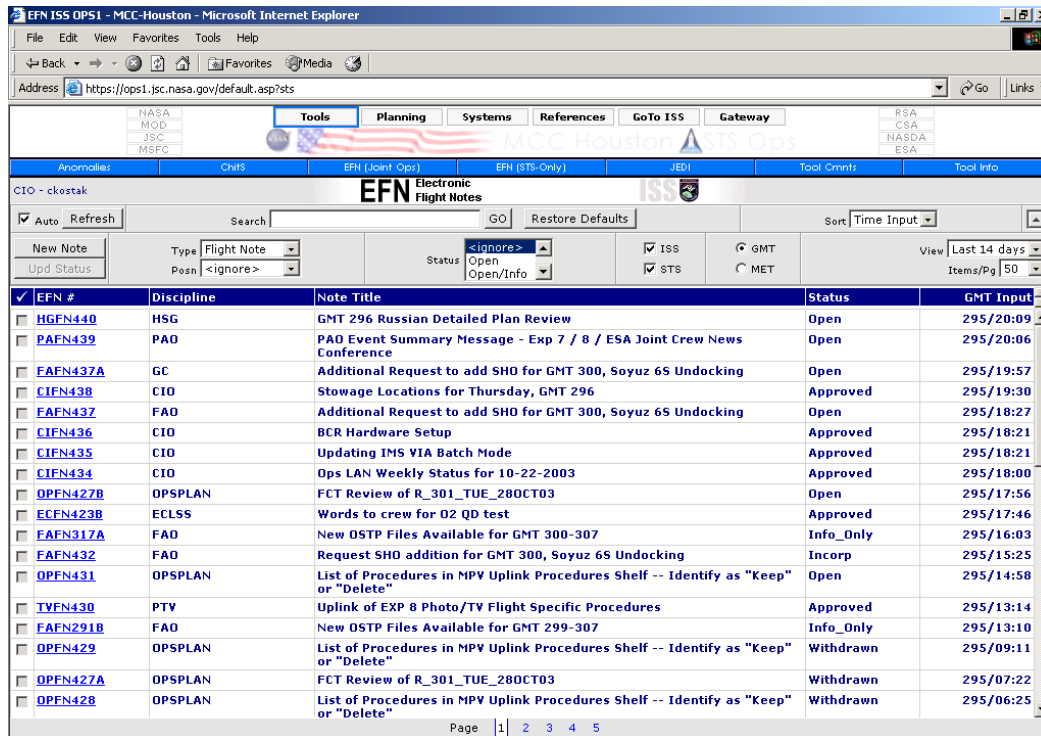

Figure 4-60. EFN system main window
4. The EFN main screen appears (see Figure 4-60). From this screen, you can read and write FNs, internal notes, and working notes, and sort or search by different fields.